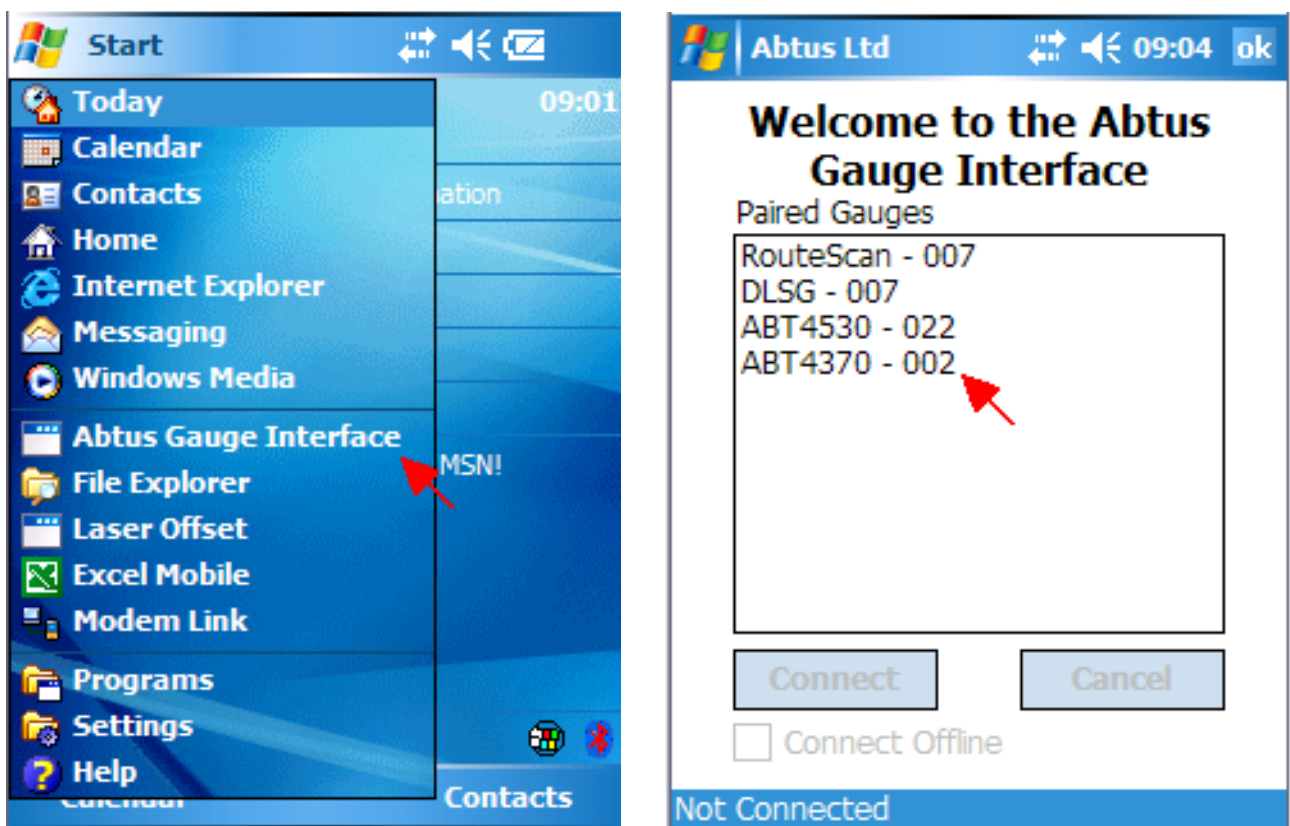

Figure 1
4. The software launches directly to the 'Connection' screen (as shown in Figure 1)